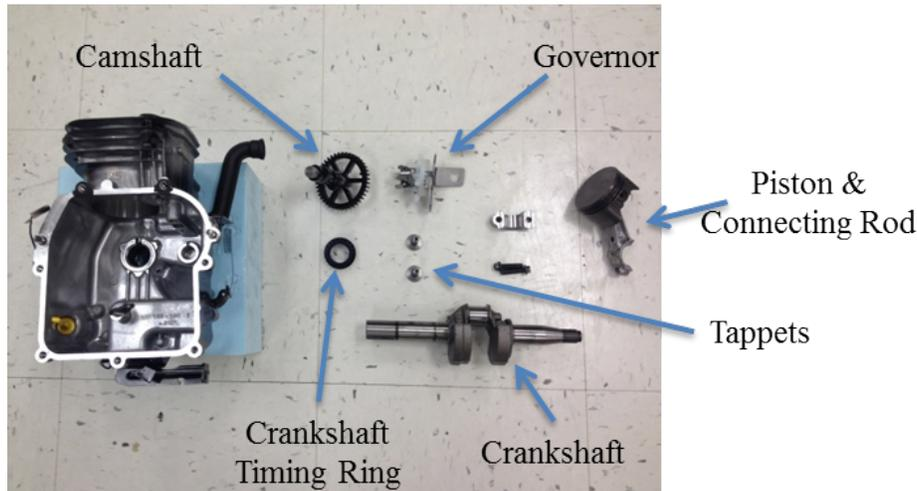

Figure 7: contents of the crankcase; the dipstick and governor lever are still in place
1. Identify the piston and connecting rod. (Figure 7)